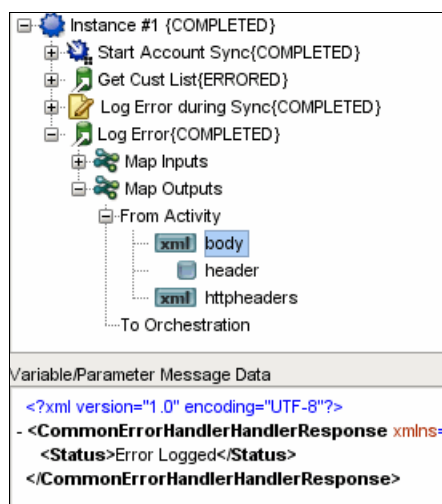

Figure 10-69 Test Common Error Handler
3. The orchestration fails during the Get Cust List activity. In the global catch block, the Common Error Handler is called. View the orchestration output to verify that the Common Error Handler was invoked, as shown in Figure 10-69.